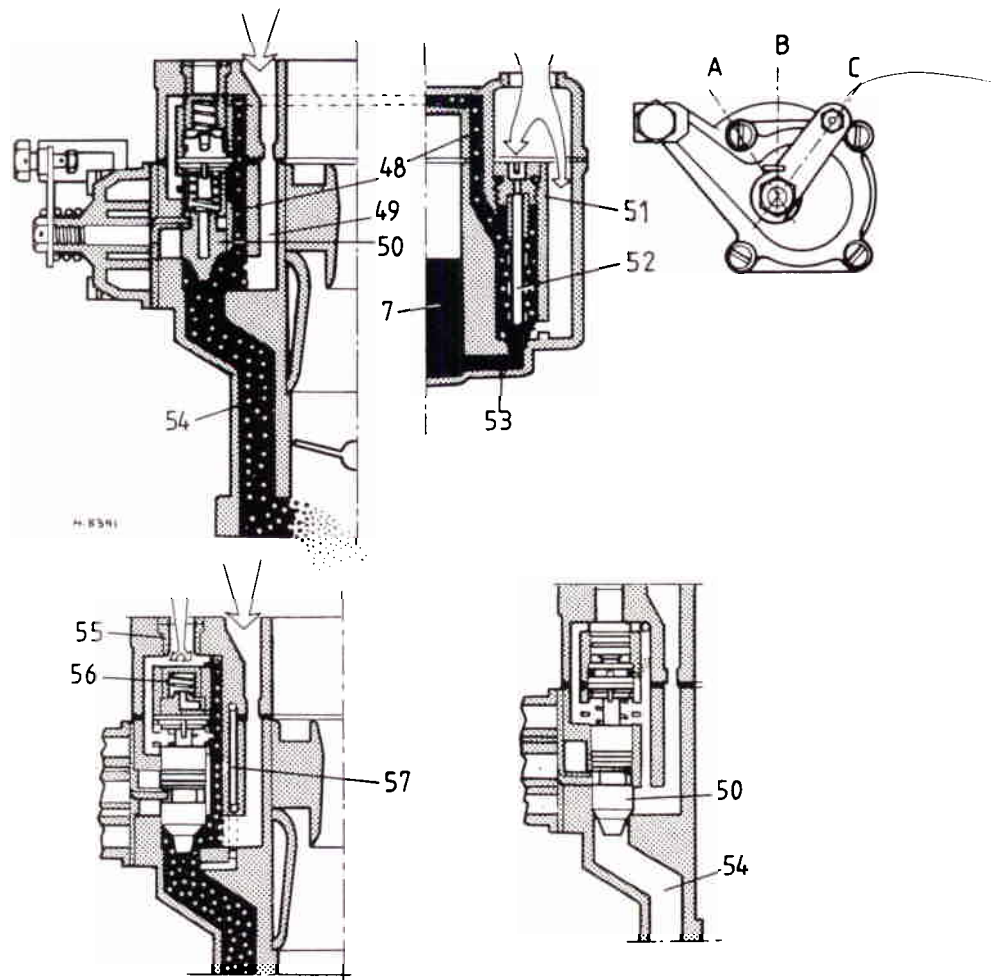

Fig. 6.3 Cold starting device operation (Sec 3)
When the choke cable is pulled, the starting device operating lever turns the control shaft which lifts the starting valve off of its seat. Reference to Fig. 6.3 will show that fuel from the float chamber (7) is driven through the channel (53) to arrive at the starter fuel jet (52). Air entering through the air correction jet (51) and the bypass channel emulsifies the fuel as it is drawn through the starting jet emulsion holes and the bypass channel. The mixture is then drawn through the channel (48) and past the starter valve (50) where additional air from the channel (49) weakens the mixture. The final mixture is drawn through the channel (54) and into both the primary and secondary carburettor barrels at the engine side of the throttle valves.